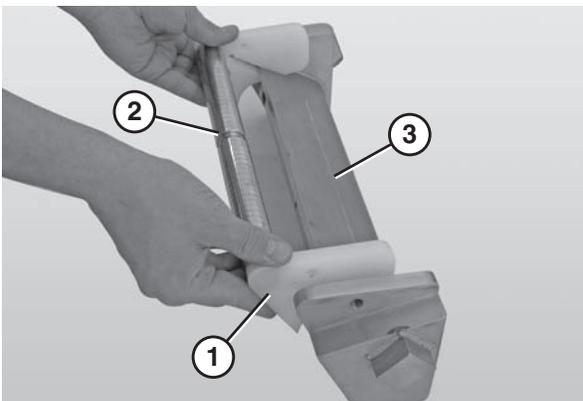

Figure 84
5. Slide the nose bar puck holders (**Figure 84, item 1**) and the nose bar spindle (**Figure 84, item 2**) off of the nose bar weldment (**Figure 84, item 3**).